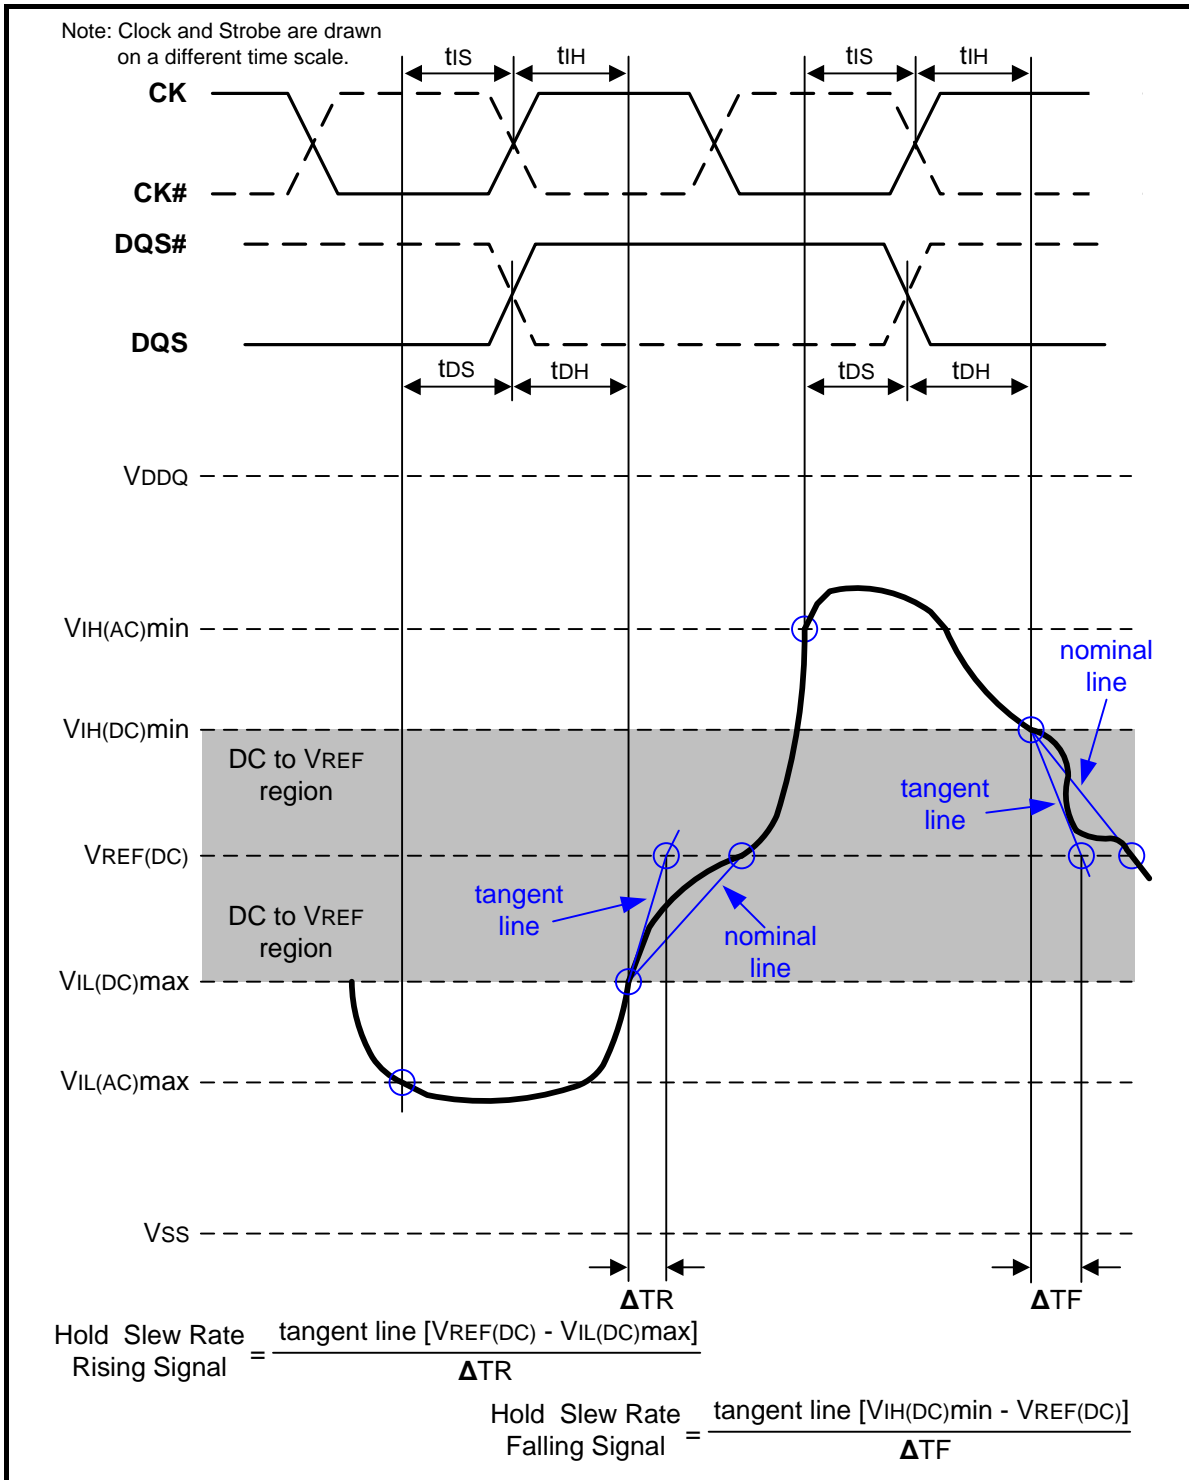

Figure 110 – Illustration of tangent line for for hold time tDH (for DQ with respect to strobe) and tIH (for ADD/CMD with respect to clock)
Hold ( $t_{IH}$ ) nominal slew rate for a rising signal is defined as the slew rate between the last crossing of  $V_{IL(DC)max}$  and the first crossing of  $V_{REF(DC)}$ . Hold ( $t_{IH}$ ) nominal slew rate for a falling signal is defined as the slew rate between the last crossing of  $V_{IH(DC)min}$  and the first crossing of  $V_{REF(DC)}$ . If the actual signal is always later than the nominal slew rate line between shaded 'DC to VREF(DC) region', use nominal slew rate for derating value (see Figure 108). If the actual signal is earlier than the nominal slew rate line anywhere between shaded 'DC to VREF(DC) region', the slew rate of a tangent line to the actual signal from the DC level to  $V_{REF(DC)}$  level is used for derating value (see Figure 110).
Hold (tDH) nominal slew rate for a rising signal is defined as the slew rate between the last crossing of VIL(DC)max and the first crossing of VREF(DC). Hold (tDH) nominal slew rate for a falling signal is defined as the slew rate between the last crossing of VIH(DC)min and the first crossing of VREF(DC) (see Figure 108). If the actual signal is always later than the nominal slew rate line between shaded 'DC level to VREF(DC) region', use nominal slew rate for derating value. If the actual signal is earlier than the nominal slew rate line anywhere between shaded 'DC to VREF(DC) region', the slew rate of a tangent line to the actual signal from the DC level to VREF(DC) level is used for derating value (see Figure 110).